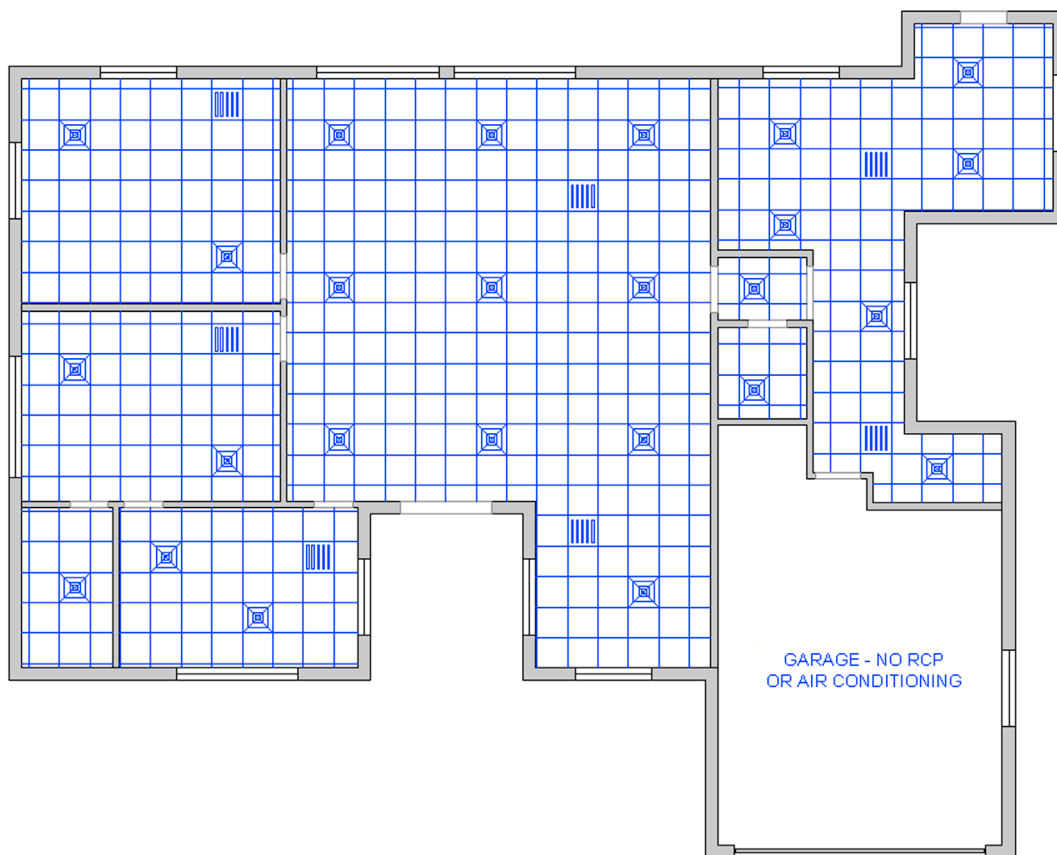

FIGURE 16.17 RCP and HVAC layout.
Step 4. Add in the diffuser and return air duct symbols, as shown in the plan (Fig. 16.17).